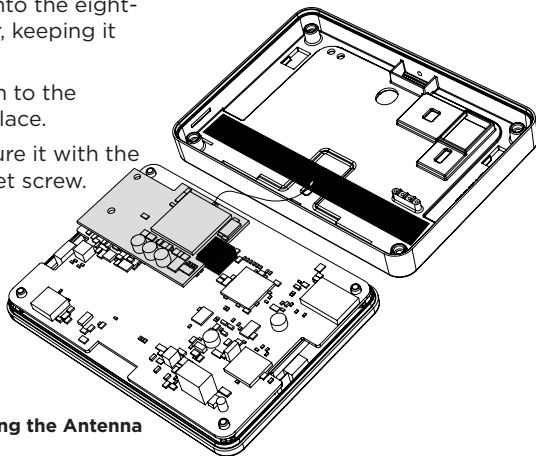

Figure 4: Connecting the Antenna
8. Replace the base and secure it with the four screws and the one set screw. See Figure 4.